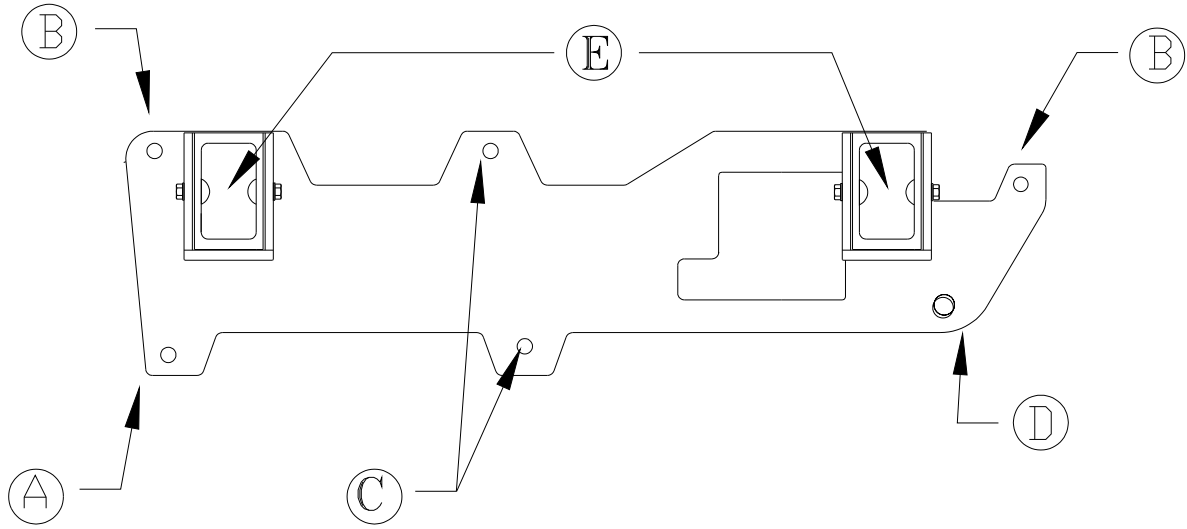

Figure 1
2. See figure 1. The bolt holes and appropriate bolts are listed and labeled by letters.
1. Position the bracket on the frame using the locator hole (D) seen in figure 1. The large square hole installs around the overload bracket.